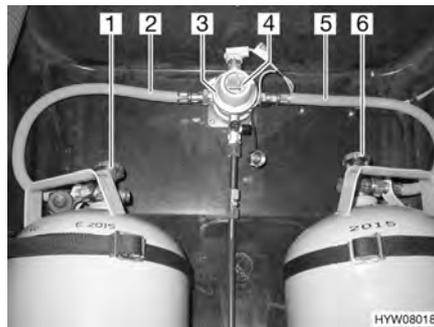
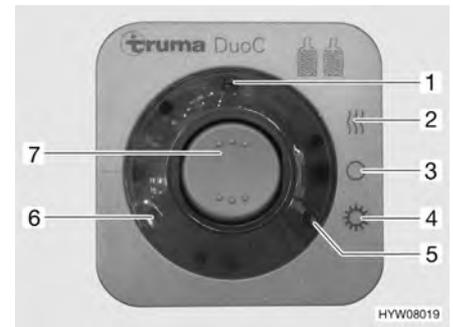

Fig. 99 DuoControl switching facility
Fig. 100 Operating unit
The DuoControl switching facility consists of a reversing valve (Fig. 99,3) and an operating unit (Fig. 100). The reversing valve is installed between the gas tubes (Fig. 99,2 and 5). The knob (Fig. 99,4) on the reversing valve is used to select which of the gas bottles is to be used as a primary bottle and which is to be used as a reserve bottle.
Only the electrical functions can be switched at the operating unit (Fig. 100). The regulator taps on the gas bottles (Fig. 99,1 and 6) must be opened manually.
The reversing valve provides a constant gas pressure, regardless of which gas bottle is being drawn upon. The two indicator lamps on the operating unit indicate the level of the primary bottle. When the green indicator lamp (Fig. 100,6) illuminates, the primary bottle is full. When the red indicator lamp (Fig. 100,5) illuminates, the primary bottle is empty. In this case, the reserve bottle is used for the gas supply.
- Open the regulator taps on the gas bottles (Fig. 99,1 and 6).
- Use the knob (Fig. 99,4) on the reversing valve (Fig. 99,3) to select the gas bottle which is to be the primary source of gas (primary bottle). Always turn the knob as far as it will go.
- Switch on the DuoControl switching facility at the operating unit (Fig. 100). To do so, set the rocker switch (Fig. 100,7) to winter operation "On and heating" (Fig. 100,2) or to summer operation "On" (Fig. 100,4). The reversing valve is now deaerated. The yellow indicator lamp (Fig. 100,1) illuminates if the winter operation has been selected and the regulator defroster is activated.
- Set the rocker switch (Fig. 100,7) to "O" (Fig. 100,3). The yellow indicator lamp (Fig. 100,1) goes out.
- Close the regulator taps on the gas bottles (Fig. 99,1 and 6).
The indicator lamps on the operating unit (Fig. 100,5 and 6) indicate in the vehicle interior whether the primary bottle is ready for operation.
If the green indicator lamp (Fig. 100,6) stops illuminating during operation and the red indicator lamp (Fig. 100,5) illuminates, the gas bottle selected as primary bottle is empty and needs to be changed. The reserve bottle continues supplying the gas appliances with gas.